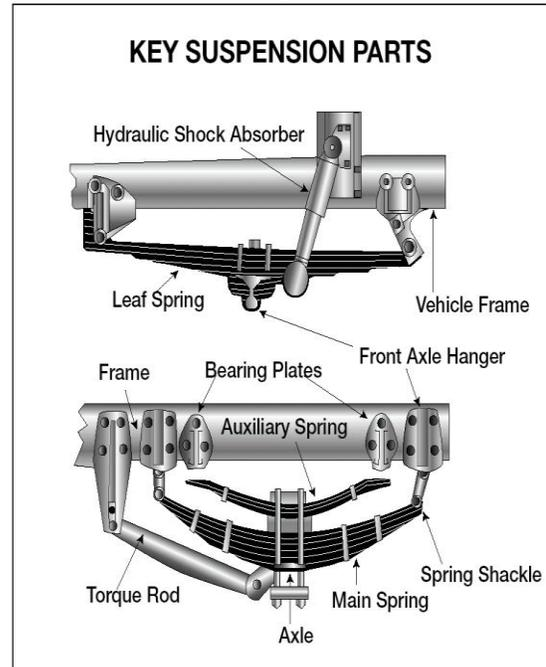

Figure 2.2
- ✓ Spring hangers that allow movement of axle from proper position. See Figure 2.2.